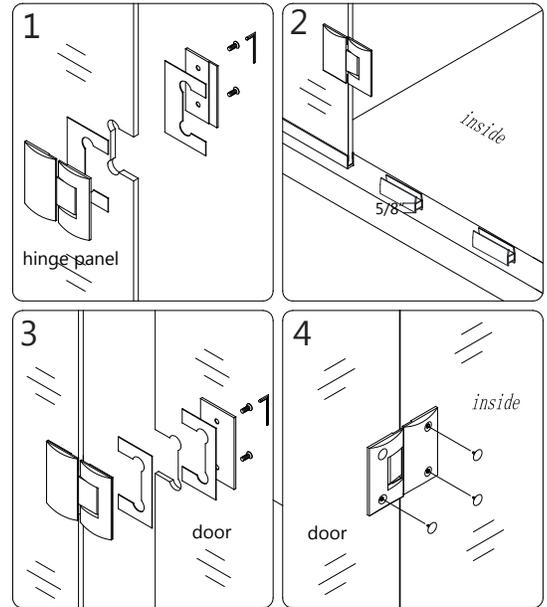
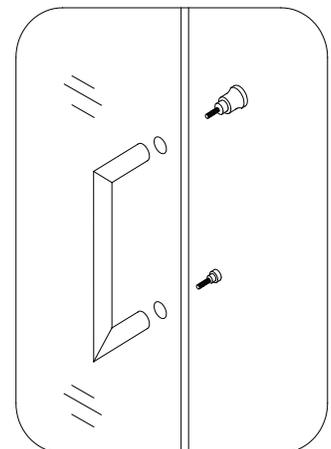

Fig 10
Fig 11
**9.** Attach the **Hinges (05)** to the **Hinge Panel glass (32)** with the decorative bolts facing inside the shower. The **Door Glass (01)** ships with four **5/8" shims** attached to the top (2pcs) and bottom (2pcs). Determine the swing of the door. Remove the shims from the top of the door glass and leave the bottom shims in place. Set the **Door Glass (01)** onto the threshold at the desired location and check for level. These 5/8" shims will leave the proper spacing at the bottom of the door glass and will ensure that the door height finishes at 72", but always confirm with a measurement. Level up the **Door Glass (01)** with the **Hinge Panel glass (32)** and fasten the hinges onto the **Door Glass (01)** using one gasket per side. Make sure the top edges of the **Door Glass (01)** and **Hinge Panel glass (32)** are aligned. Remove the 5/8" spacers from beneath the Glass door.\*\*
**See Fig. 10 for details.**
**10.** Mount the **Handle (02)** to the **Glass door (#01)**.
**See Fig. 11 for details.**